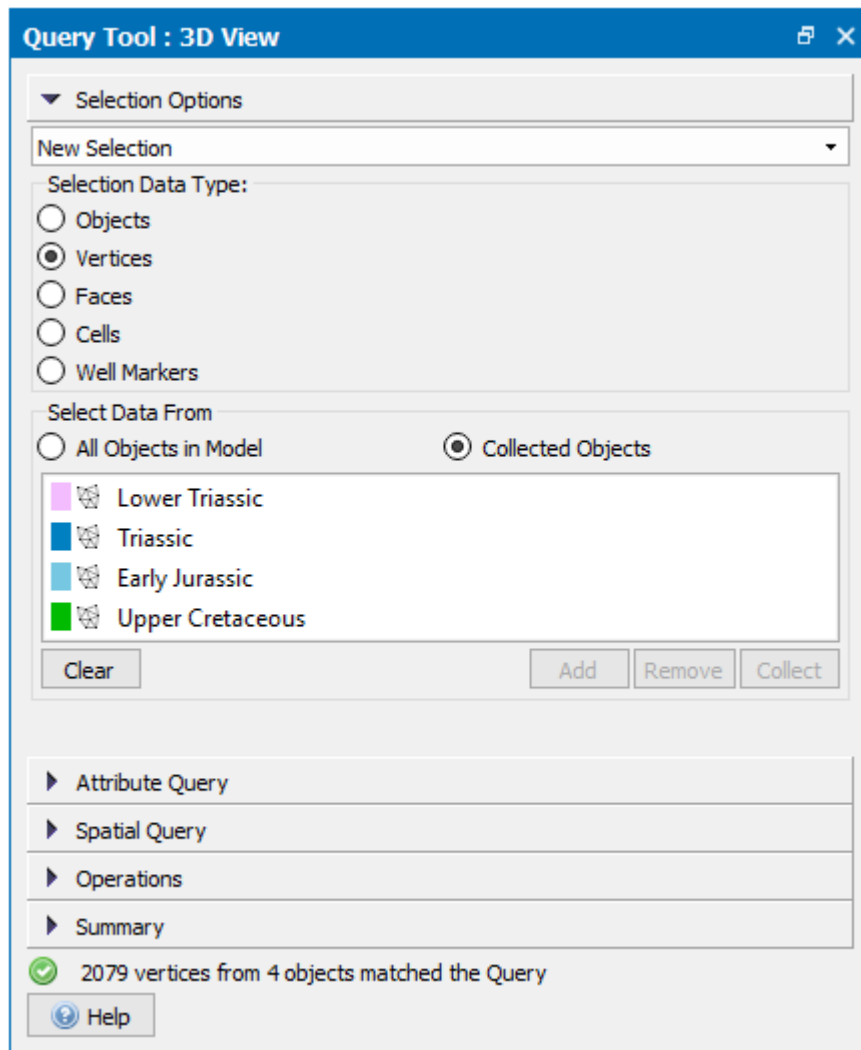

Figure 2: Vertices from the horizon surfaces selected for Query interrogation.
2. Under **Selection Data Type**, select **Vertices** and collect the horizon surfaces into **Collected Objects**, as displayed in Figure 2.